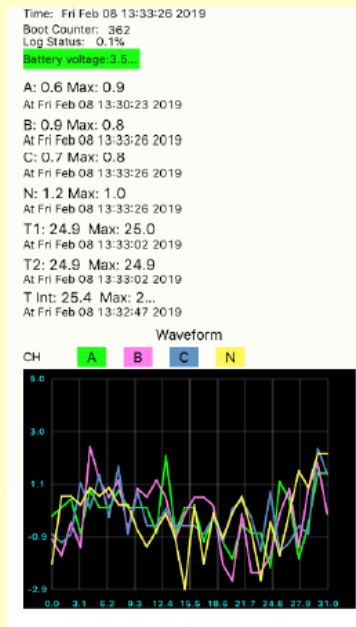

Figure 8
4. If connecting using the Citrus Lite mobile application, the user can click the 'connect' button within the app. Once connected, the user will see a display similar to the one in Figure 8 below which shows instantaneous values, maximum values and a live plot, as well as other general information about the Mirrin.